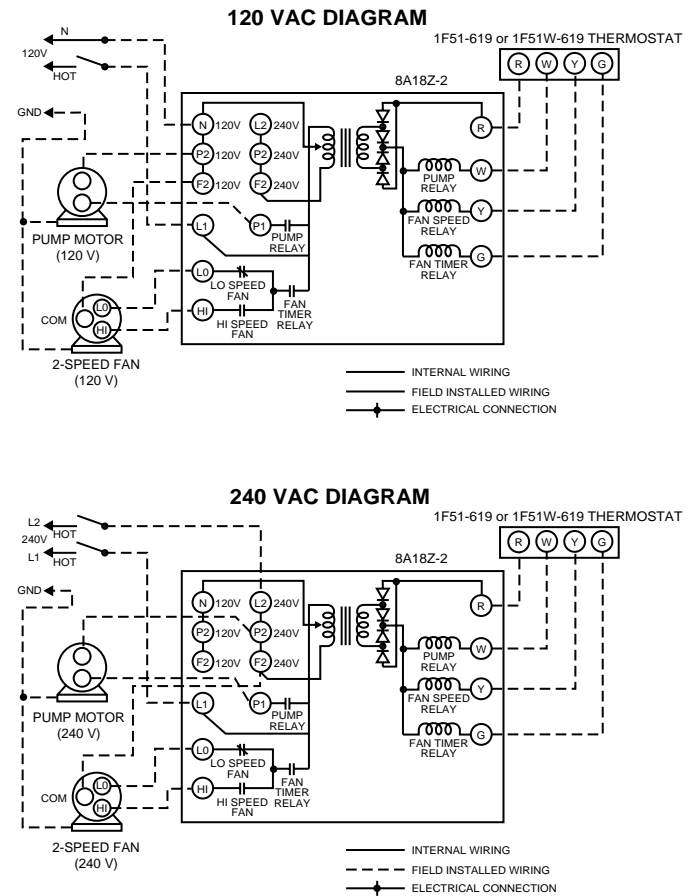

Figure 4. Typical wiring diagrams
- Connect wires to proper terminals (see fig. 4 for typical wiring connections).